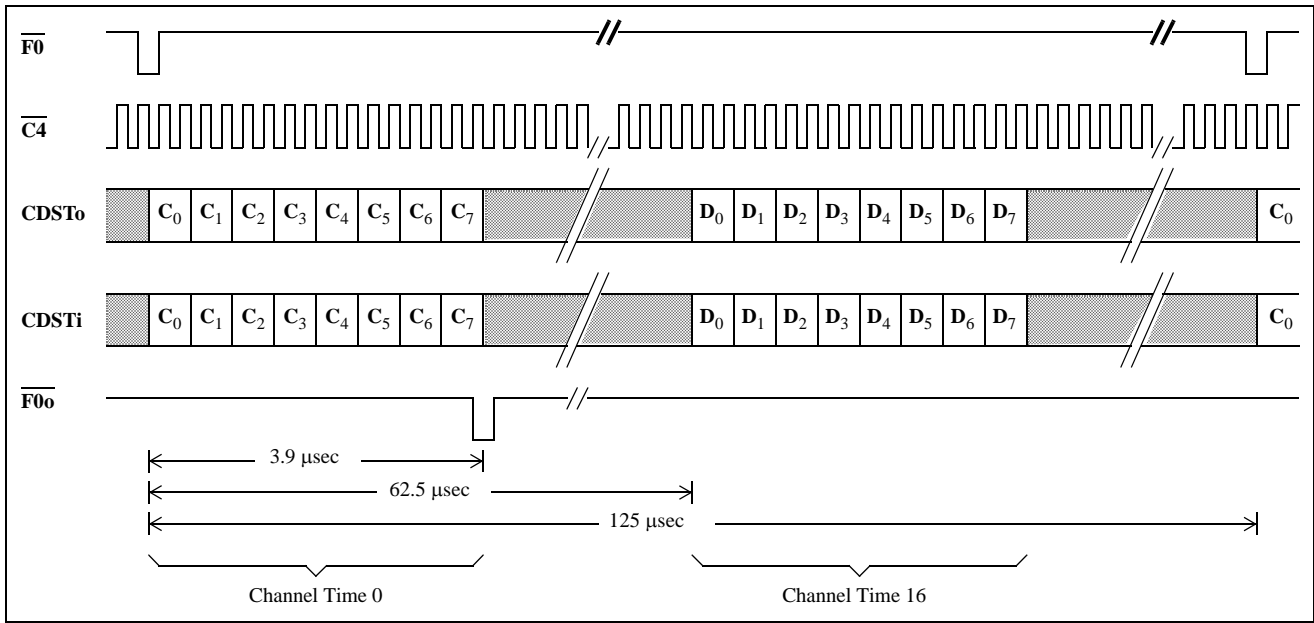

Figure 7 - CD Port (Modes 2,6)
In DIGITAL NETWORK (DN) mode there are three channels transferred by the DV and CD ports. They are the B, C and D channels. The B1 and B2 channels each have a bandwidth of 64 kbit/s and are used for carrying PCM encoded voice or data. These channels are always transmitted and received through the DV port (Figures 3, 4, 5, 6). The C-channel, having a bandwidth of 64 kbit/s, provides a means for the system to control the DNIC and for the DNIC to pass status information back to the system. The C-channel has a Housekeeping (HK) bit which is the only bit of the C-channel transmitted and received on the line. The 2B+D channel bits and the HK bit are double-buffered. The D-channel can be transmitted or received on the line with either an 8, 16 or 64 kbit/s bandwidth depending on the DNIC's mode of operation. Both the HK bit and the D-channel can be used for end-to-end signalling or low speed data transfer. In DUAL port mode the C and D channels are accessed via the CD port (Figure 7) while in SINGL port mode they are transferred through the DV port (Figures 5, 6) along with the B1 and B2 channels.
The CD port is composed of the C and D-Channels. The C-channel is used for transferring control and status information between the DNIC and the system. The D-channel is used for sending and receiving signalling information and lower speed data between the line and the system. In DN/DUAL mode the DNIC receives a C-channel on CDSTi while transmitting a C-channel on CDSTo. Fifteen channel times later (halfway through the frame) a D-channel is received on CDSTi while a D-channel is transmitted on CDSTo. This is shown in Figure 7. The order of the C and D bytes in DUAL port mode can be reversed by the mode select pins. See Table 1 for a listing of the byte orientations.